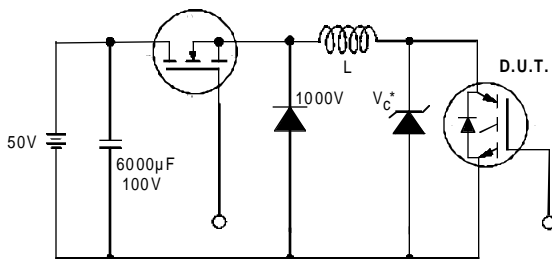

Figure 19. Clamped Inductive Load Test Circuit
② $V_{CC}=80\%(V_{CES})$, $V_{GE}=20V$, $L=10\mu H$, $R_G=50\Omega$, (See Fig. 19)
③ Pulse width $\leq 80\mu s$; duty factor $\leq 0.1\%$.
④ Pulse width $5.0\mu s$, single shot.
- ② $V_{CC}=80\%(V_{CES})$, $V_{GE}=20V$, $L=10\mu H$, $R_G = 22\Omega$ (figure 19)
- ③ Pulse width $\leq 80\mu s$; duty factor $\leq 0.1\%$.
- ④ Pulse width $5.0\mu s$, single shot.